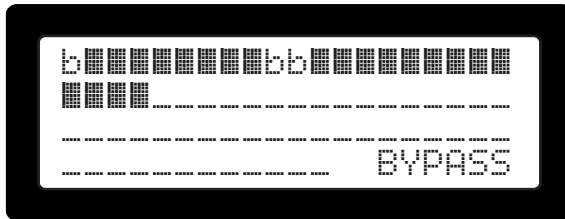

Figure 16. Bypassed zones overview screen
- Pressing **[BYP]** again: The zones overview screen (Figure 16) is displayed. Each zone is represented as one character. In the list view each zone bypass is shown with either **[(z)]**: Zone bypass only, **[(r)]**: Relay bypass only, **[(b)]**: Zone and relay bypass.